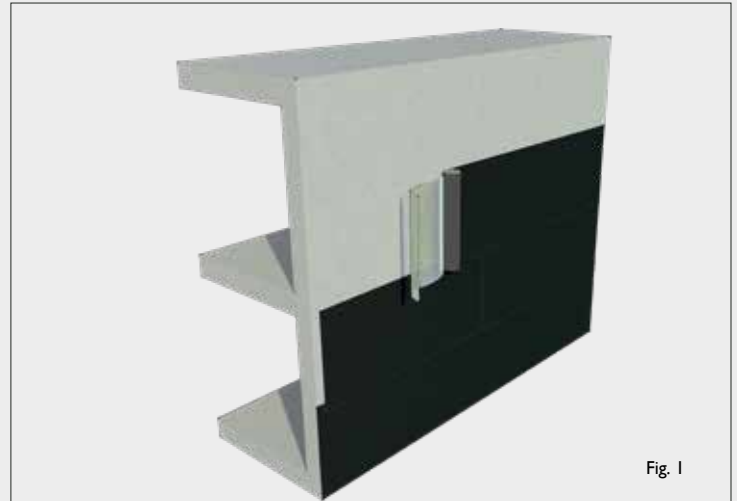

Fig. 1
4. Starting at corner; peel back release paper by approx 150mm. (Fig.1)